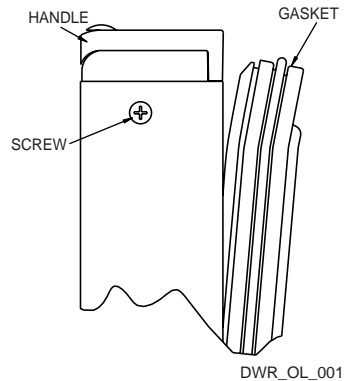

Figure 12
1. Open drawer. Pull door gasket (Figure 12) out of the groove (top edge of door only). Start in the middle and pull outward, moving toward the edge. This may take some force.